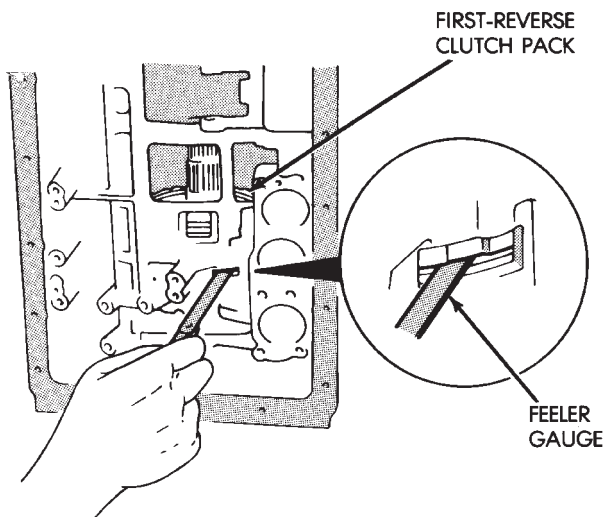

Fig. 43 Checking First-Reverse Brake Clutch Pack Clearance
(52) Measure clearance of first-reverse brake clutch pack (Fig. 43). Clearance should be 0.70 - 1.2 mm (0.028 - 0.047 in.). Replace discs if clearance is not as specified.